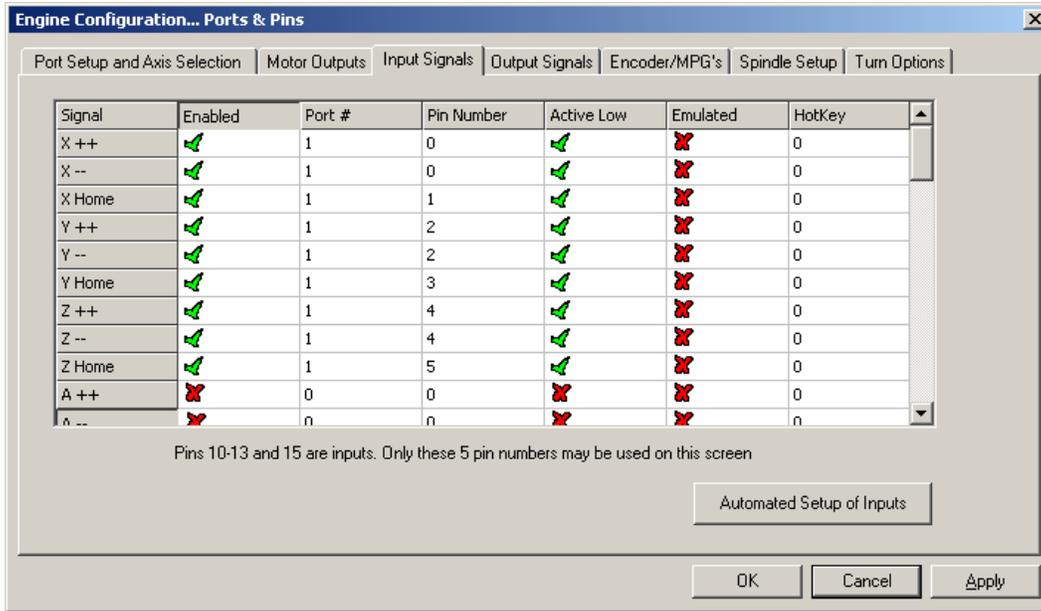

Figure 78 Input Signals
6. Click on the **Input Signals** tab (see Figure 78).
7. Enable your limit and home switches by clicking the red “X” by the signal. The input is enabled when there is a green check mark on the enable column. X++ is the forward limit, X— is the back limit, and X Home is the homing switch (Figure 78).